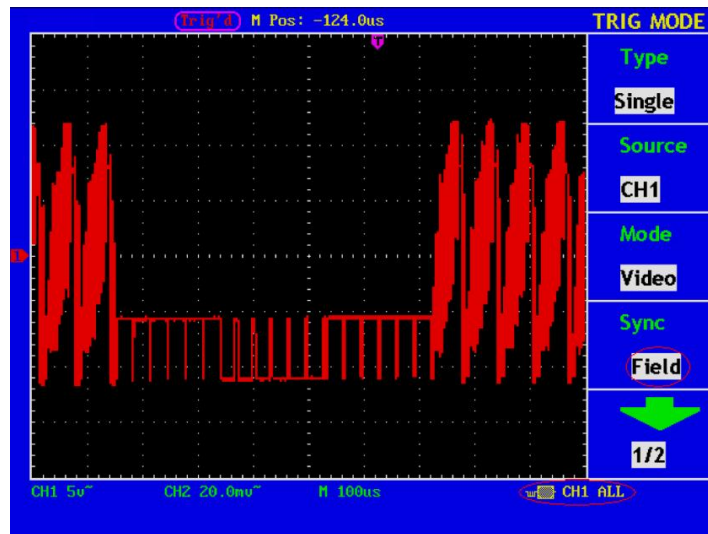

Fig. 111 Wave Form Obtained from Video Field Trigger
6. Adjust the **VOLTS/DIV**, **VERTICAL POSITION** and **SEC/DIV** knobs to obtain a proper wave form display (see Fig.111).